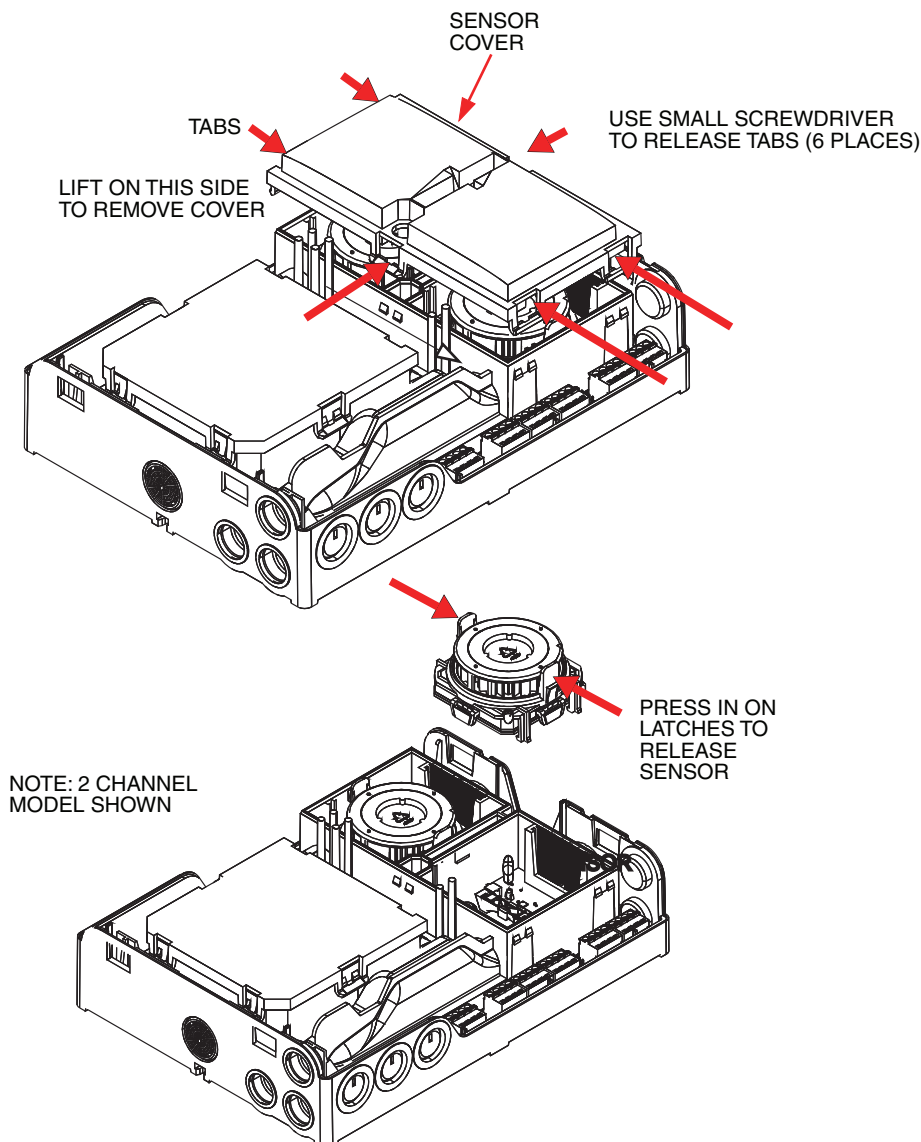

Figure 20-1: Sensor Replacement
2. Using a small screwdriver, release six locking tabs, and remove Sensor Cover (see Figure 20-1).